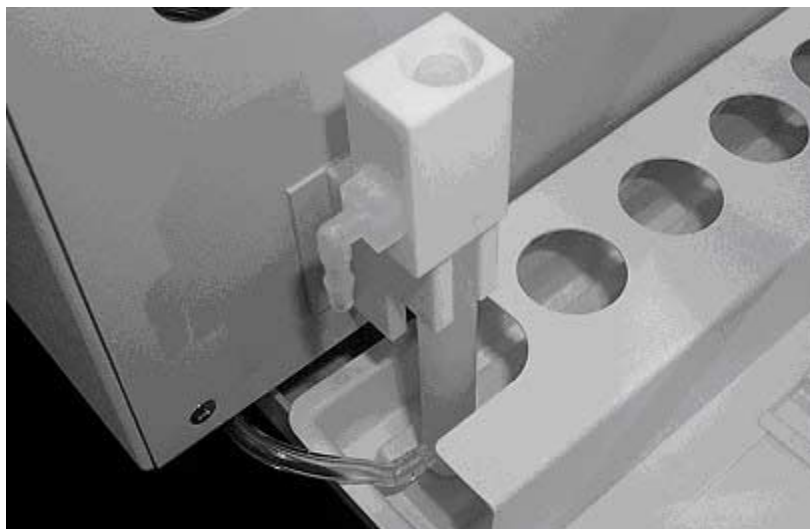
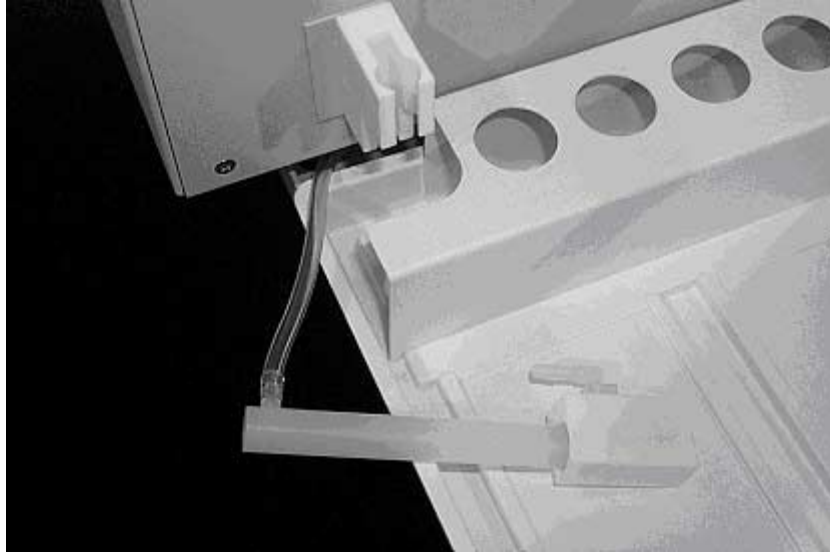

Figure 1-4. View of rinse station.
Figure 1-5. View of rinse station removed from the front cover.
3. After the Z-drive assembly is removed, then remove the rinse station. See Figure 1-4. Turn the rinse station $\frac{1}{4}$ turn counter-clockwise while pulling up. Also, the tubing located at the bottom of rinse station will have to be removed or moved aside. See Figure 1-5.